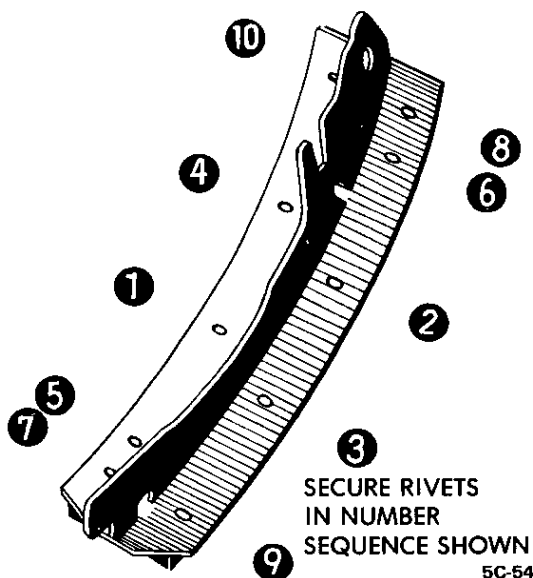

Figure 5C-54 Brake Lining Riveting Sequence
3. Use Opel brake lining or equivalent. Install in place and rivet in sequence shown in Figure 5C-54. Keep hands clean while handling brake lining. Do not permit oil or grease to come in contact with lining.